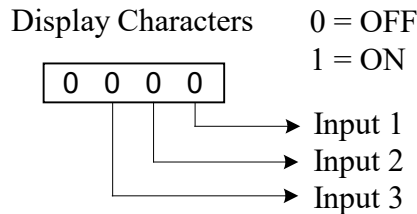

Figure 21: Display Bit Positions Associated with Switch Inputs
2	<p>Press the ▲ UP ARROW key and the display will show the status of the three (3) switch inputs.</p> <p>When a switch is activated at one of the inputs, the corresponding display character toggles to “1.” When an input turns OFF, the corresponding display character toggles to “0.”</p> <p>Figure 21 shows the bit positions associated with the three (3) switch inputs.</p>